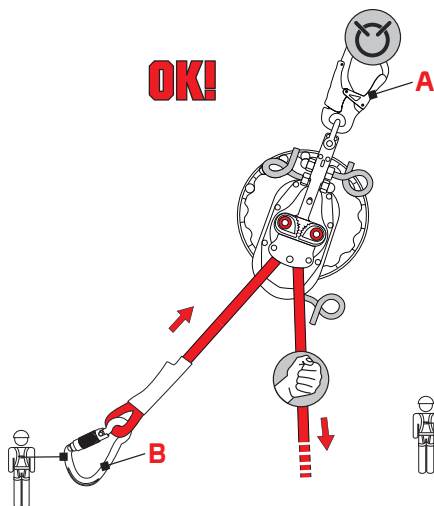
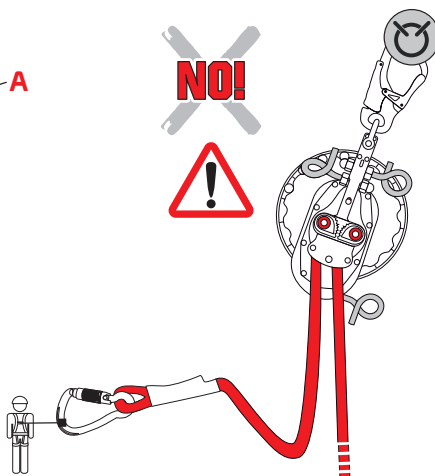

Fig.4A
Fig.4B
- connect the device, using connector (A), to an anchoring point conform to EN 795,
- connect the short end of the rope, using connector (B), to the harness of the person to be abseiled and tighten the rope (fig. 4a) ensuring no slack is formed (fig. 4b),